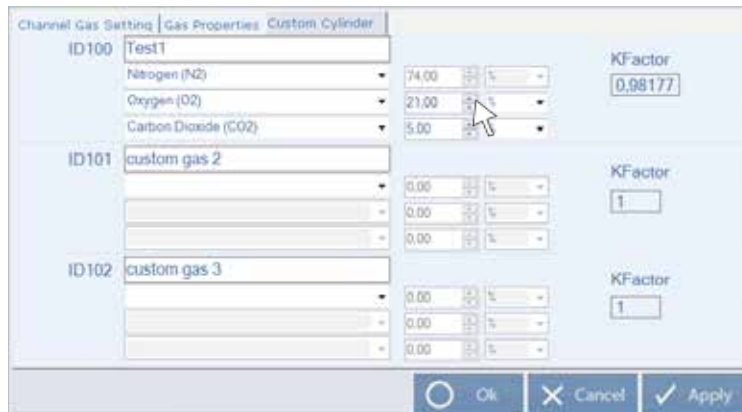

Fig. 25
- **Concentration and Unit** – Here (Fig. 25) you can indicate the concentration you need for each component and the measure unit (ppb, ppm or %).